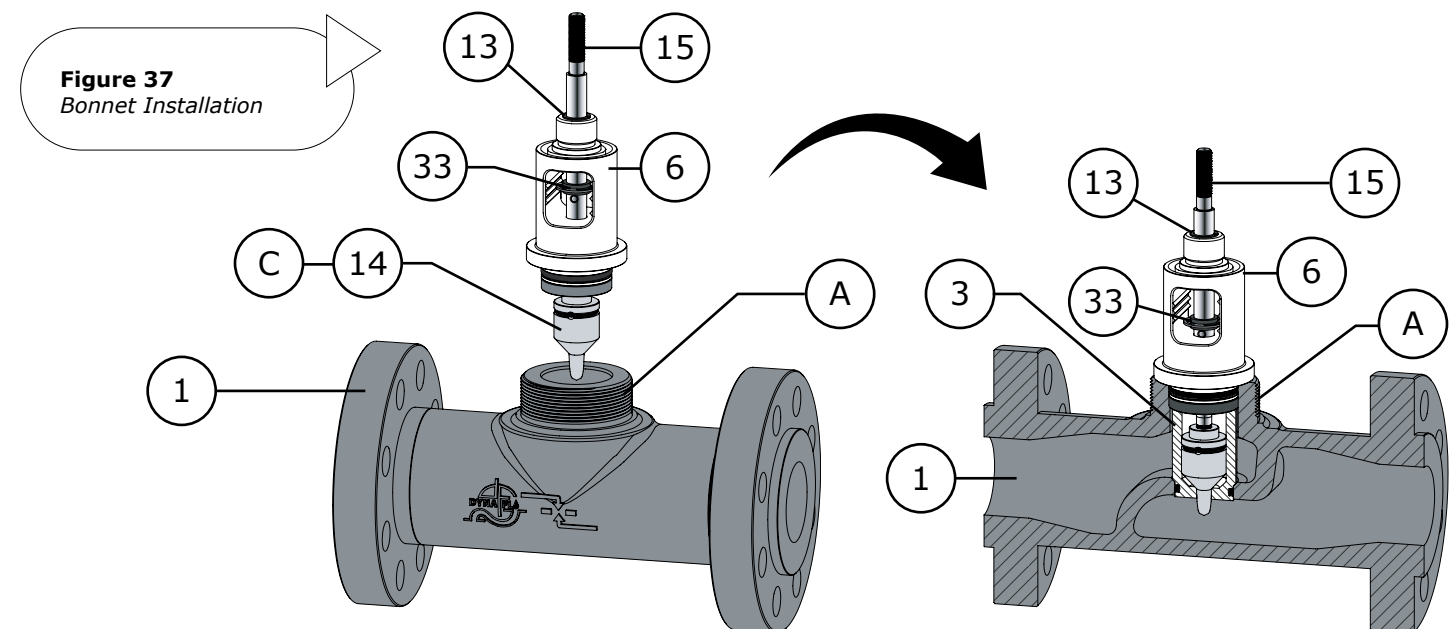

Figure 37 Bonnet Installation
- 7 Apply Lubriplate® No. 105 Grease (Key C) to surface of the valve plug (Key 14) and carefully insert the bonnet assembly into the valve body and orientate the window of the bonnet (Key 6) so that it is perpendicular to the valve body (Key 1) as shown in Figure 37. **NOTE:** It is important that the valve plug not be rotated once it is placed into the valve seat (Key 3 & 3B). Rotating or dropping the plug in the seat can cause damage to both.